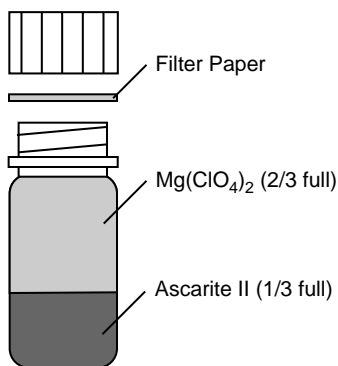

Figure 7-8. Fill the bottles with Ascarite II, followed by magnesium perchlorate.
4. If you are preparing your own chemical bottles, dispose of the exhausted chemicals and prepare the new bottles by filling them with equal parts Ascarite II and magnesium perchlorate (Figure 7-8). Fill the bottles 1/3 full with Ascarite II first, followed by the magnesium perchlorate. Place a filter paper disk in the lid to keep the chemicals from spilling into the detector housing.
6. Remove the optical bench if necessary to access the chopper housing chemical bottle cover. Remove the 4 screws on the bottle cover. Remove the two chemical bottles and recharge as shown in Figure 7-8.